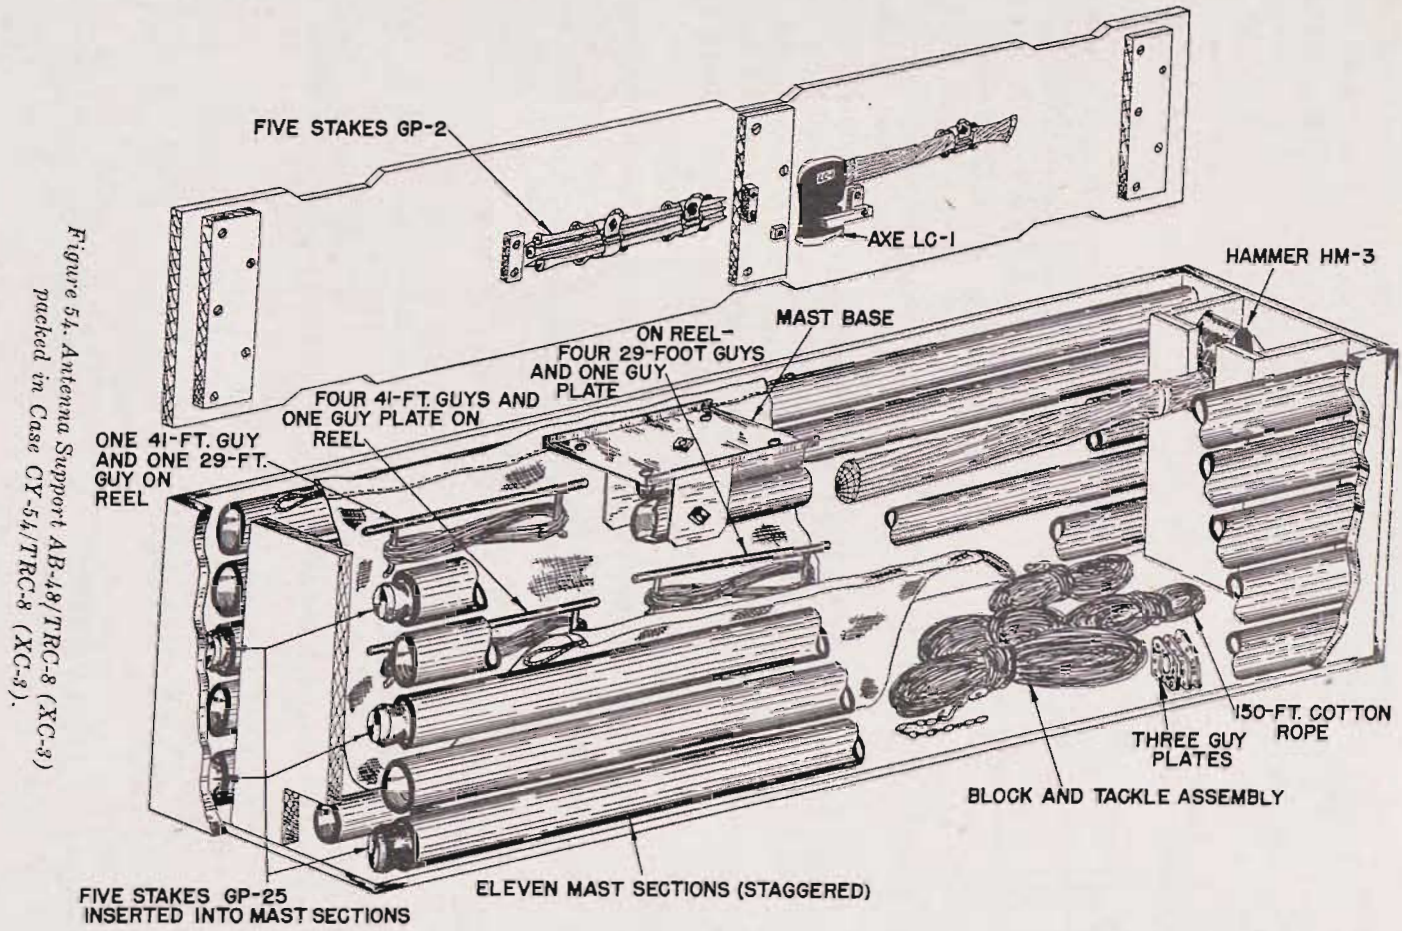
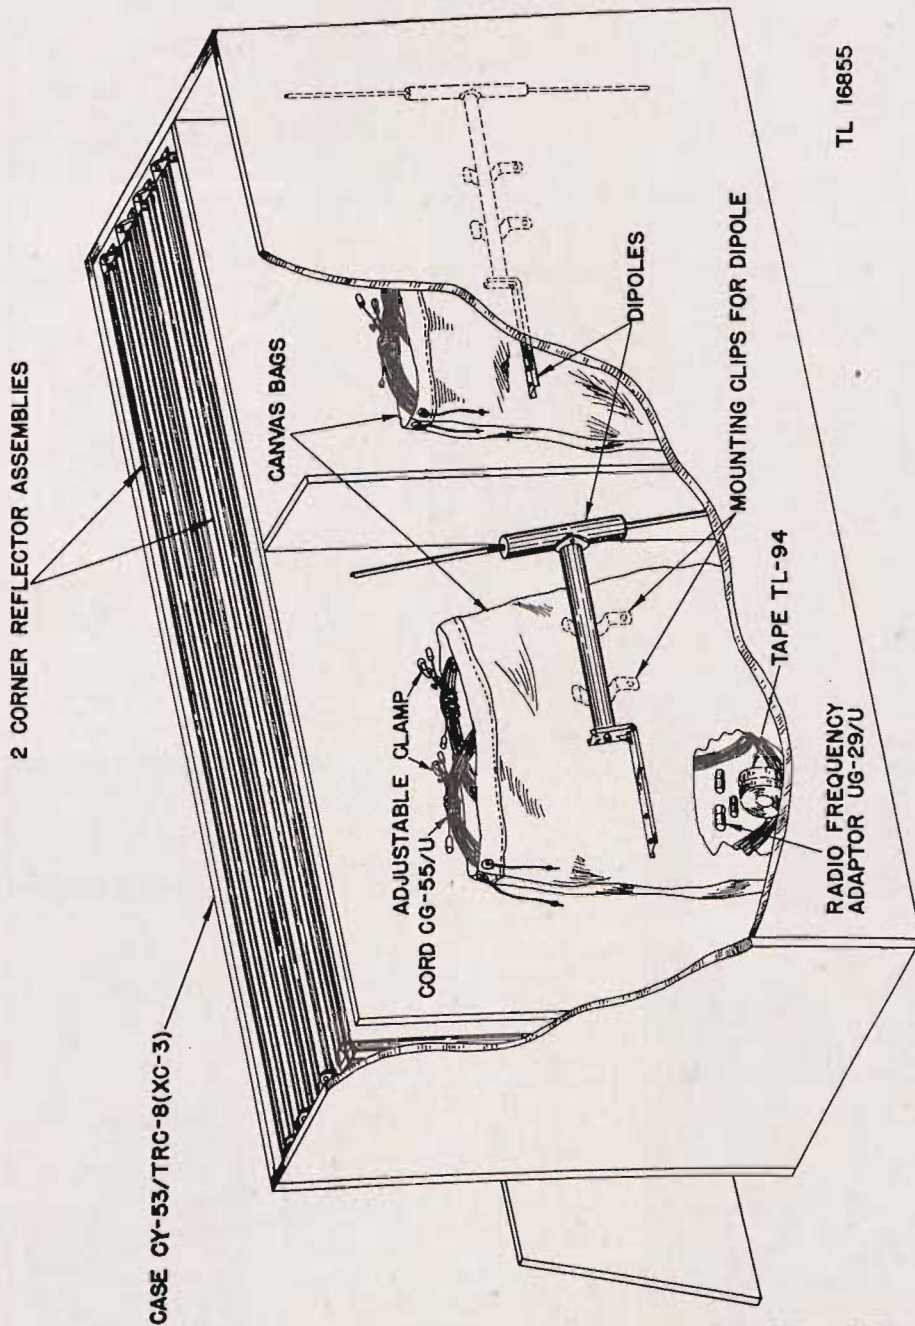

Figure 54. Antenna Support AB-48/TRC-8 (XC-3) packed in Case CX-54/TRC-8 (XC-3).
Figure 55. Two Antenna Assemblies AS-52/TRC-8 (XC-3) packed in Case CY-53/TRC-8 (XC-3).
- b. The method of packing Antenna Support AB-48/TRC-8 (XC-3) in Case CY-54/TRC-8 (XC-3) is shown in figure 54. Figure 55 shows the method of packing two Antenna Assemblies AS-52 TRC-8 (XC-3) in Case CY-53/TRC-8 (XC-3).